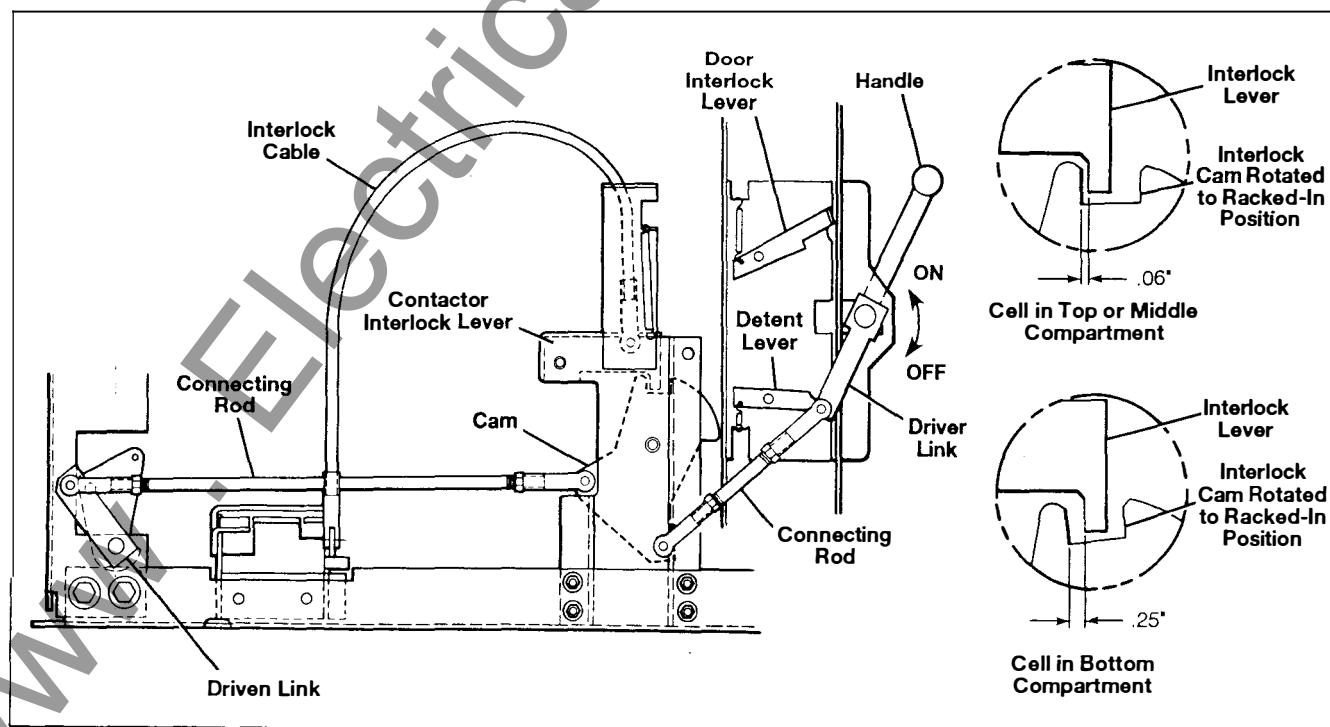

Figure 42. Racking Mechanism Adjustment—"ON" Position
4. Manually rotate the contactor interlock lever so that the tab on the end of the lever engages the notch in the cam. Loosen the lock nuts on each end of the short connecting rod and adjust the length of the rod by rotating it until the dimension between the tab and the cam notch shown in **Figure 42** is obtained. Retighten the lock nuts.
Cells located in bottom compartments are deeper than cells in middle or upper compartments. The racking mechanism linkages for bottom cells are slightly different and must be adjusted differently from those of shorter cells which are located in middle or upper compartments. Depending on cell location, determine the proper dimension between the tab and cam notch from **Figure 42** and adjust the mechanism accordingly.